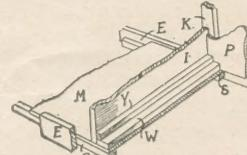

Fig. 2—Cut-away view of centre partition, floor and drawer guides
The middle floor does not extend right through nor do the ledge pieces themselves. They only extend a portion of the way as shown at Fig. 2.
The front edge of it is covered by an upright rail (K), whilst it is supported on one side by fillet pieces of triangular section. In Fig. 2 can also be seen how the runners and guides for the drawer are made. These are the parts Y and W. The latter is glued to the floor immediately opposite the upright, and Y comes above it.